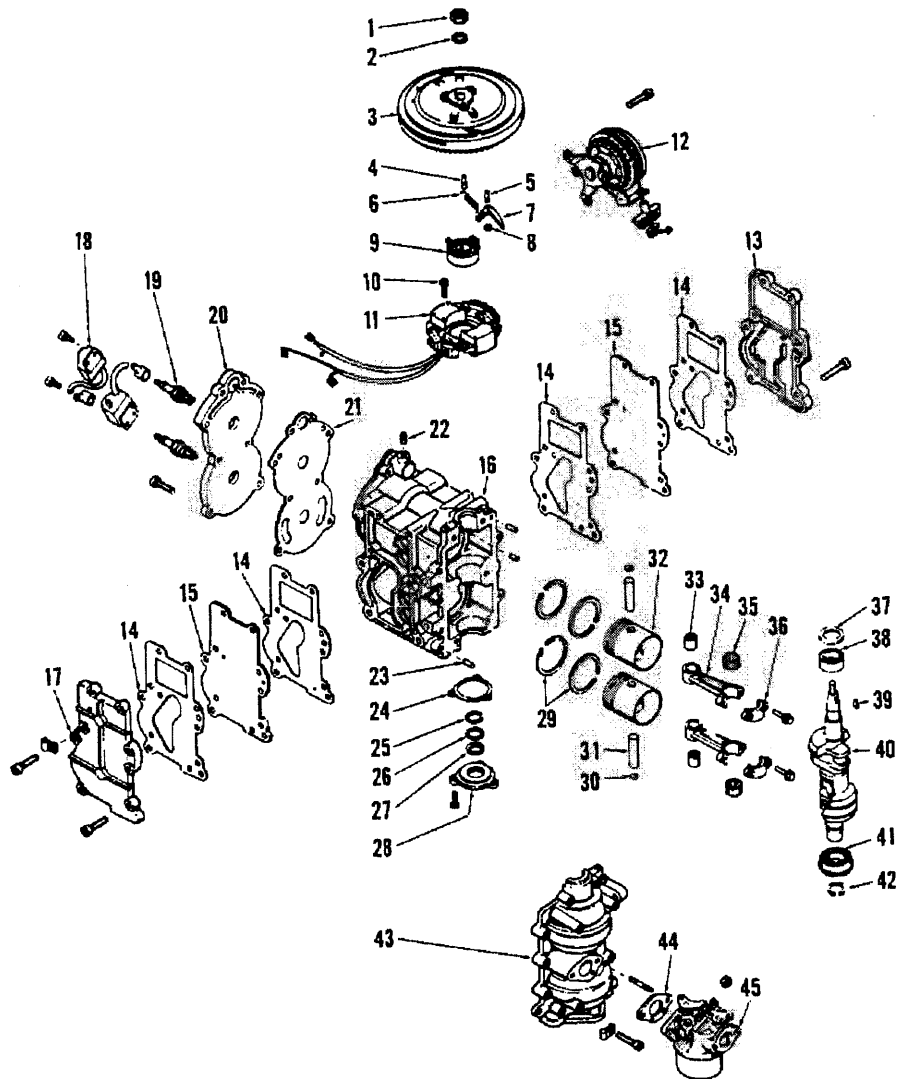
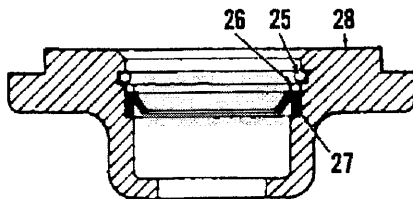

Fig. E3-17—Exploded view of power head assembly.
Fig. E3-22—Lower main bearing cap seal (27) must be installed with lip down, away from main bearing. Refer to Fig. E3-17 for legend.
Remove recoil starter assembly. Remove flywheel, mark stator for reinstallation and remove stator assembly. Lower main bearing cap (28—Fig. E3-17) must be removed before crankcase cover (43) can be removed. Remove screws securing crankcase cover to crankcase. Three pry points (P—Fig. E3-18) are provided to aid in separating the crankcase cover from crankcase. Do not pry at any other points as mating surfaces will be damaged and crankcase
Magneto end crankshaft seal (37—Fig. E3-17) may be installed after crankcase sections are assembled. Seal should be pressed into crankcase, using an appropriate size driver, until it is flush or no more than 1/32 inch (0.79 mm) below end of crankcase (Fig. E3-21). Crankcase should be staked to help retain seal.
Lower bearing cap seal (27—Fig. E3-17) may be renewed after removal of snap ring (25) and retaining ring (26). Seal (27) should be installed with lip facing down (Fig. E3-22).
Main bearing at pto end of crankshaft should not be removed unless renewal is intended. To remove bearing, remove small snap ring (42—Fig. E3-17). Use a bearing splitter to grasp bearing by